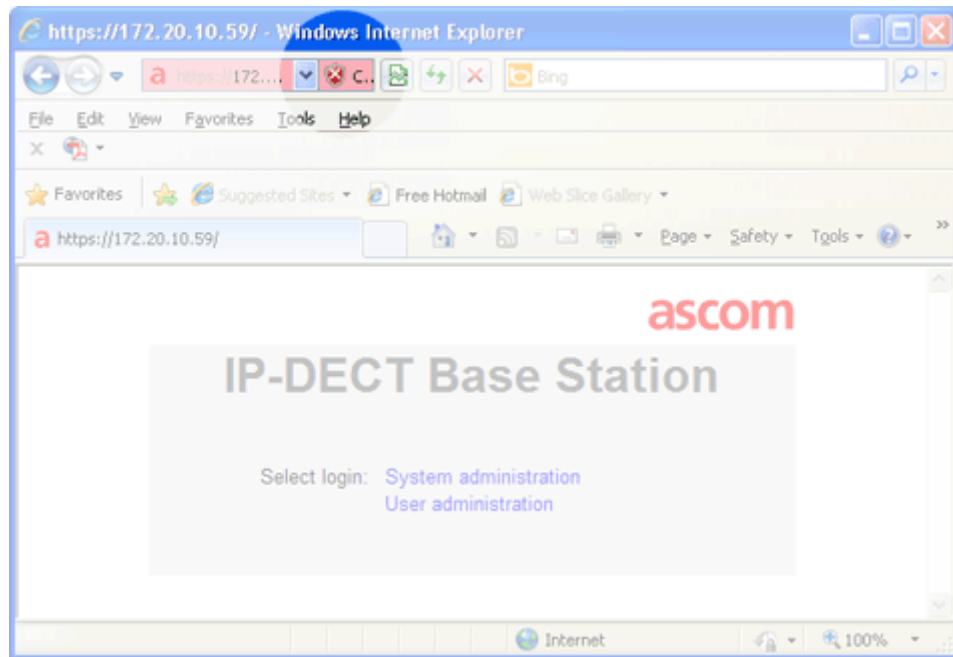

Figure 8. Screenshot of the login window, with the "Security Status bar highlighted.
- 3 Click on the "Certificate Error" notification in the Security Status bar (next to the Internet Explorer Address bar), see Figure 8. The Security Report window will